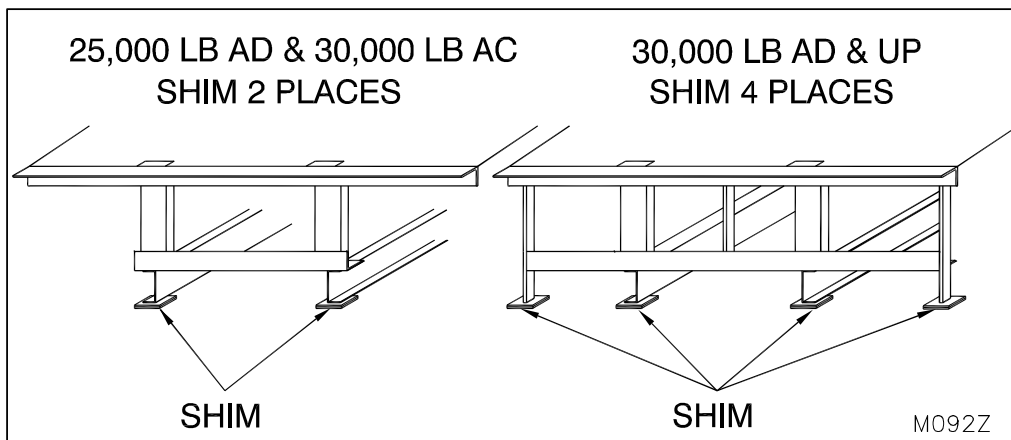

Figure 12: Dock Leveler Rear Shims
1. ___ Place shims of minimum length and width of 3" by 4" and a minimum thickness of 14 gauge under rear frame until top rear of dock leveler is flush with rear curb angle. (See "Figure 12: Dock Leveler Rear Shims" on page 15) Tack weld into position.